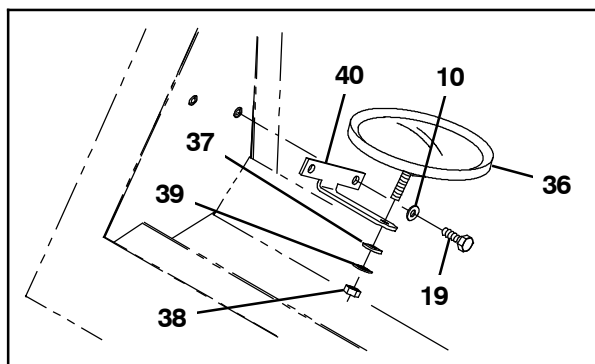

FIG. 2
7. Use two hex screws (19) and two flat washers (10) to install the side brush mirror bracket (40) onto the cab (1). (Fig. 2)
8. Use a nut (38), lock washer (39), and flat washer (37) to install the mirror (36) onto the side brush mirror bracket (40). (Fig. 2)
19. Reinstall the circuit breaker panel onto the machine. (Fig. 2)